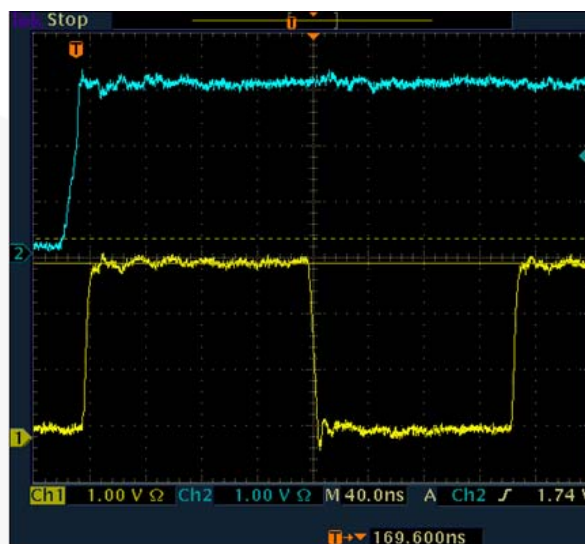

Figure 12. Scope Shot of I/O and Clock Signals
Due to open-drain technology, hosts and SIM cards do not use push-pull drivers on the I/O pin. Logic LOWs are pulled down (I_{sink}), while logic HIGHs are “let go” (3-state). During a logic LOW on the I/O pin, both series NpassGates are turned on and act like a very low resistive short between the host and the SIM card. When the host or card lets go of a previously held LOW on the I/O pin, the rise time is largely determined by the RC time constant, where R is the internal pull-up resistor (10K Ω) and C is the I/O signal trace capacitance. The FXLA2203 acts as a very low resistive short between the host and SIM card (during a LOW) until either of the port's $V_{CC/2}$ thresholds are reached. After the RC time constant has reached the $V_{CC/2}$ threshold of either port, the port's edge detector triggers both dynamic drivers to drive their respective ports in the LOW-to-HIGH (LH) direction, accelerating the rising edge. The resulting rise time resembles the CH2 waveform (blue) of Figure 12. Effectively, two distinct slew rates appear in the rise time. The first slew rate (slower) is the RC time constant of the I/O signal trace. The second slew rate (faster) is the dynamic driver accelerating edge.